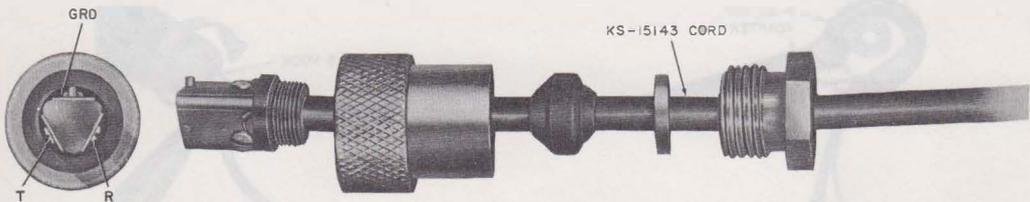

Fig. 23—KS-8419 Plug
4.12 The KS-8419 plug (Fig. 23) is a 3-contact, brass plug intended for connecting telephone sets installed on boats, trains, or auto trailers to outdoor jacks of PBX or CO lines. This plug is intended for use with KS-8420 or KS-8421 jacks.
- (1) Plug components are assembled to KS-15143 3-conductor, 18-gauge cord or equivalent (Fig. 23).
- (2) In KS-15143 cord or equivalent, the black conductor should be used for the ring (negative) side of the line. The white conductor should be used for tip (positive) side of the line. The green conductor is the ground conductor.
- (3) One terminal of the KS-8419 plug has a small lug protruding from the contact. This lug and the notched terminal on KS-8420 and KS-8421 jacks are provided to ensure that the plug is inserted in one position only.
- (4) When ground is necessary for service, the green conductor should be terminated on the notched terminal.